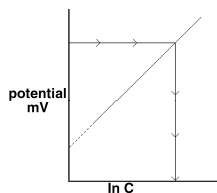

Figure 2
- Using the voltage reading and the principle described in Figure 2, the natural log of concentration of the specific ion can be determined.